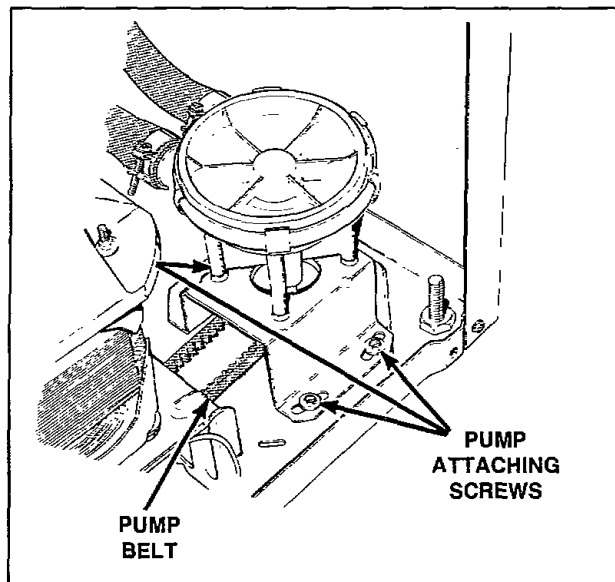

Figure 21
- b. Remove two front mounting screws and loosen the mounting screw holding pump and bracket to washer base, *Figure 21*, pivot entire assembly toward motor to loosen belt tension.
- b. Remove two front mounting screws and loosen the rear mounting screw holding pump and bracket to washer base, *Figure 21*, pivot entire assembly toward motor to loosen belt tension.